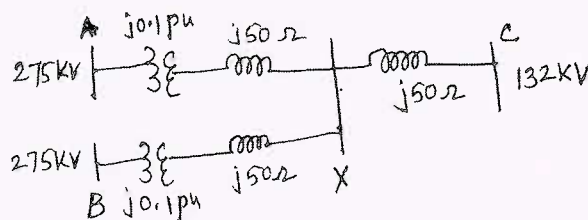

Fig.Q7(b)
- b. Three generating stations are connected to a common bus bar and as shown in Fig.Q7(b). For a particular system load the line voltage at bus x falls by 5 KV. Calculate the reactive power injection required to bring back the voltage to the original value. All pu values are on a base of 500 MVA.